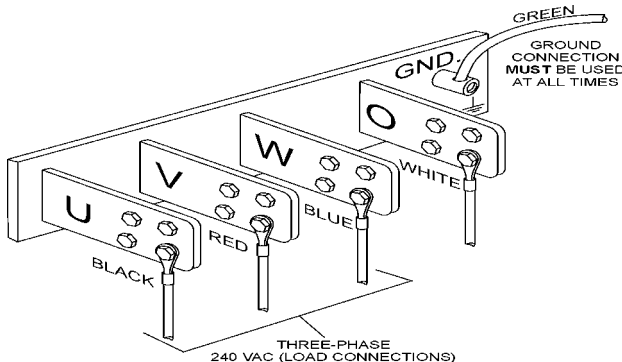

Figure 18. UVWO Terminal Lugs
2. Connect the load wires to the UVWO terminals as shown in Figure 18.